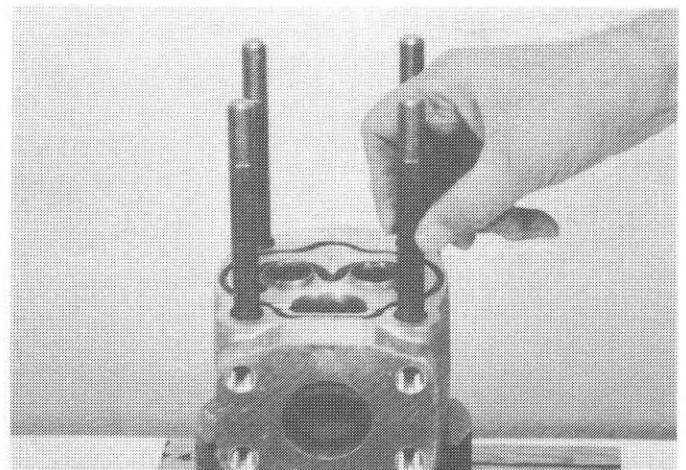

FIG. 31
41. Place a stabilizer o-ring (16) in each dowel bore in the bearing plate. Install bearing plate o-ring (10), pressure balance o-ring (9), and nylon back-up strip (8). (Fig. 31)